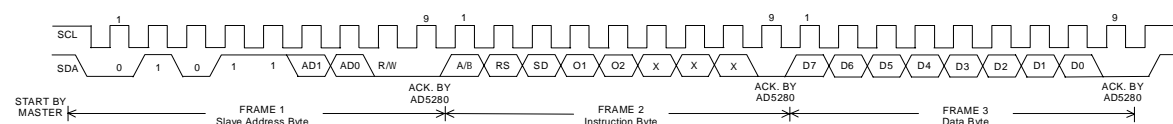
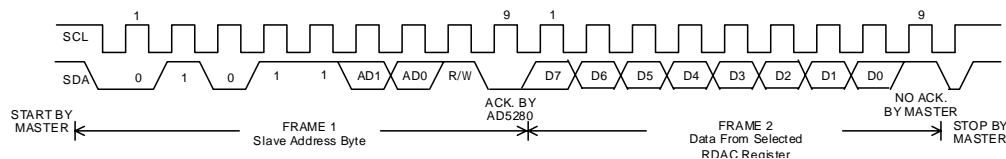

Figure 2. Writing to the RDAC Register
Figure 3. Reading Data from a Previously Selected RDAC Register
Referring from Figures 2 and 3, the first byte of AD5280/AD5282 is a Slave Address Byte. It has a 7-bit slave address and a R/\bar{W} bit. The 5 MSBs are 01011 and the following
1. The master initiates data transfer by establishing a START condition, which is when a high-to-low transition on the SDA line occurs while SCL is high, Figure 2. The following byte is the Slave Address Byte which consists of the 7-bit slave address followed by an R/\bar{W} bit (this bit determines whether data will be read from or written to the slave device).
2. A Write operation contains an extra Instruction Byte more than the Read operation. Such Instruction Byte in Write mode follows the Slave Address Byte. The MSB of the Instruction Byte labeled A/B is the RDAC sub-address select. A "low" select RDAC1 and a "high" selects RDAC2 for dual channel AD5282. The 2nd MSB RS is the Mid-scale reset. A logic high of this bit moves the wiper of a selected RDAC to the center tap where $R_{WA}=R_{WB}$. The 3rd MSB SD is a shutdown bit. A logic high causes the RDAC open circuit at terminal A while shorting wiper to terminal B. This operation yields almost a zero Ohm in rheostat mode or zero volt in potentiometer mode. This SD bit serves the same function as the \overline{SHDN} pin except it reacts in active low. The following two bits are O2 and O1. They are extra programmable logic output that users can make use of them by driving other digital loads, logic gates, LED drivers, and analog switches, etc. The 3 LSBs are DON'T CARE. See Figure 2.
condition, Figure 2. In Read mode, the master will issue a No Acknowledge for the 9th clock pulse (i.e., the SDA line remains high). The master will then bring the SDA line low before the 10th clock pulse which goes high to establish a STOP condition, Figure 3.